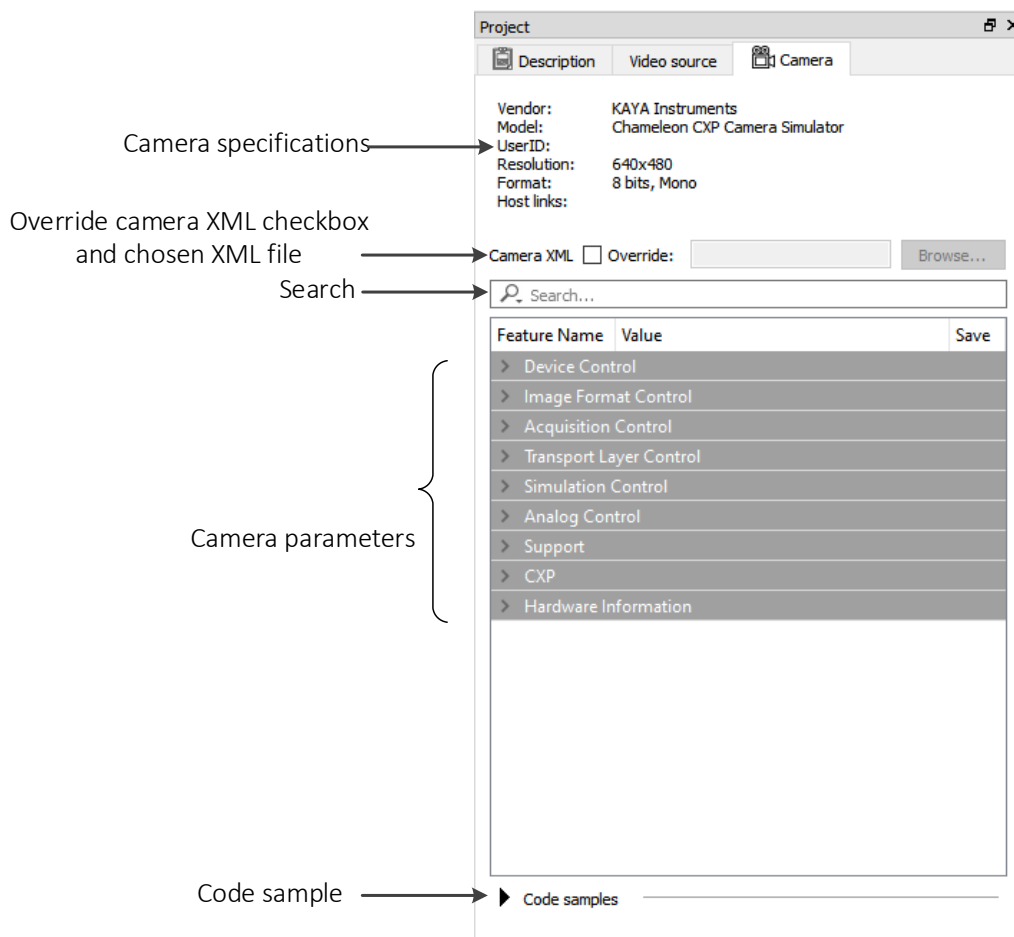

Figure 6 – Camera navigator tab
3. The Camera tab enables configuring the camera Geni>Cam parameters listed in the camera XML file. An external XML file may be loaded in the absence of a native one from the camera. The camera tab is shown in Figure 6.